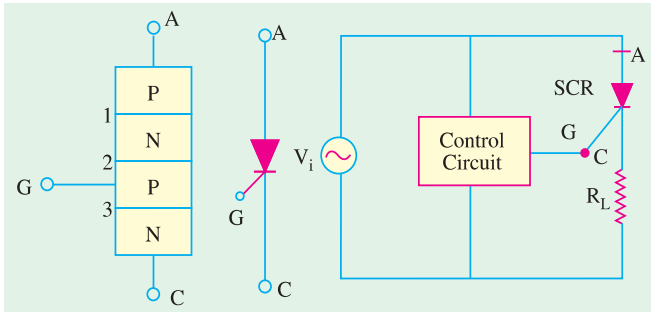

Fig. 55.40
It is a trijunction PNPN device having three external connections : anode (A), cathode (C) and gate (G) as shown in Fig. 55.40.
As shown in Fig. 55.40 (b), SCR needs a control circuit which triggers it into conduction by a gate pulse. Two popular ways of turning ON an SCR are: